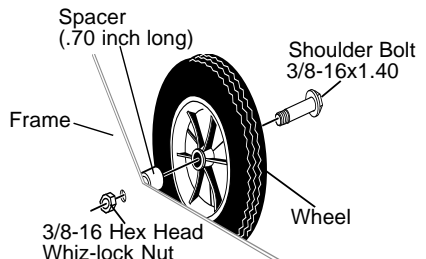

FIG. 4-ASSY
- Attach the left rear wheel to the Edger/Trimmer shown in **Fig. 4-ASSY** with a 3/8-16 x 1.40 inch shoulder bolt, spacer and 3/8-16 hex head whiz lock nut found in parts bag and tighten nut.